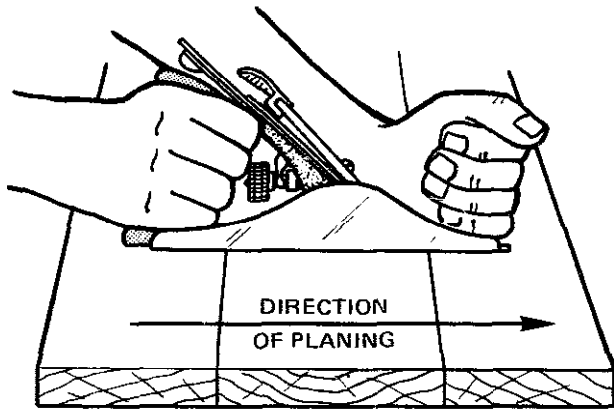

Fig. 8-35 Planing a broad surface.
- Plane straight across the boards, figure 8-35. Apply pressure at the start on the knob and at the heel at the end of the cut as described for other types of planing.